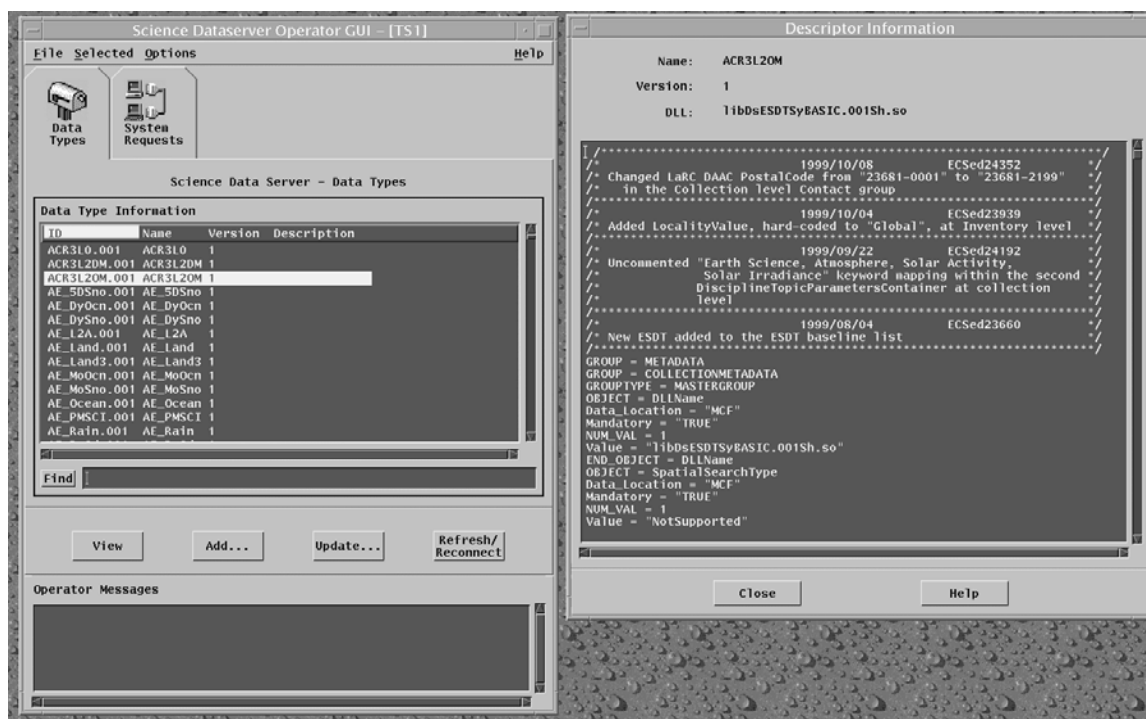

Figure 16. Viewing An ESDT Descriptor File
- The descriptor file (Figure 16) is displayed.